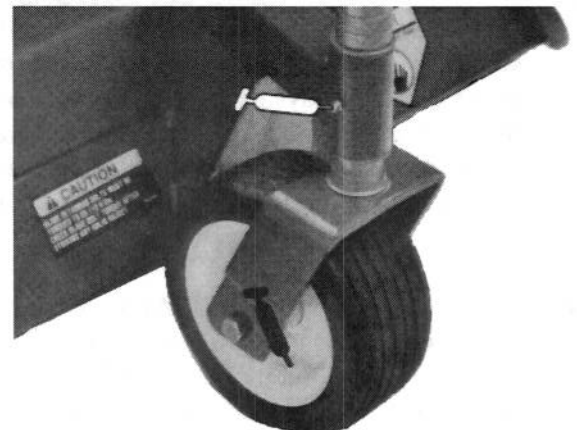

Figure 5
GREASE BEARINGS, BUSHINGS AND GEAR BOX (Fig. 5–8)
1. The cutting unit has bearings and bushings that must be lubricated, and these lubrication points are: front castor spindle bushings (Fig. 5); rear castor spindle shaft (Remove the shaft from the castor arm and coat the hex shaft with grease every 50 hours (Fig. 6); castor wheel bearings (Fig. 5 & 6); blade spindle bearings (Fig. 7) and right and left ball joints (Fig. 7).